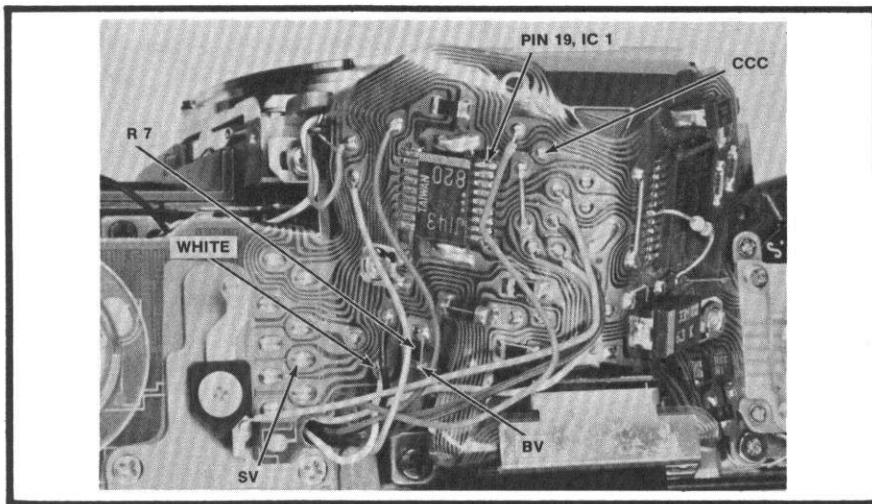

Figure 91
Check the BV signal at pin 4 of IC4 or at R7, Fig. 91. With SW1 closed, you should get a change in voltage as you change the light level striking the SPD. The BV voltage should go more positive as you decrease the light level. If there's no change, troubleshoot IC4.
Connect a 4.7K resistor between the CCC land, Fig. 91, and ground. The LED readout should change to f/4. If it does, IC2 is o.k.
Cause: check the maximum-aperture resistor. Disconnect the white wire, Fig. 91 from the flex and measure the resistance between the white wire and ground. As you push in the maximum-aperture correction pin, the resistance should go from around 4K to around 11K. If the maximum-aperture resistor checks o.k., measure the voltage at pin 2 of IC4. The voltage should go from around 1.8V to around 1.4V as you push in the maximum-aperture correction pin. If the voltage remains at 1.8V, replace IC4.
5. Check the AVO signal at pin 2. You should measure around 1.8V without a lens on the camera. When you push in the maximum-aperture correction pin, you should see the voltage decrease—around 1.5V with the maximum-aperture correction pin pushed completely in. No change—check the maximum-aperture resistor VR102 by measuring the resistance between the white wire, Fig. 91, and ground. The resistance should go from around 4K to around 11K as you push in the maximum-aperture correction pin. If the maximum-aperture resistor checks properly, but you don't get the voltage change at pin 2, replace IC4.